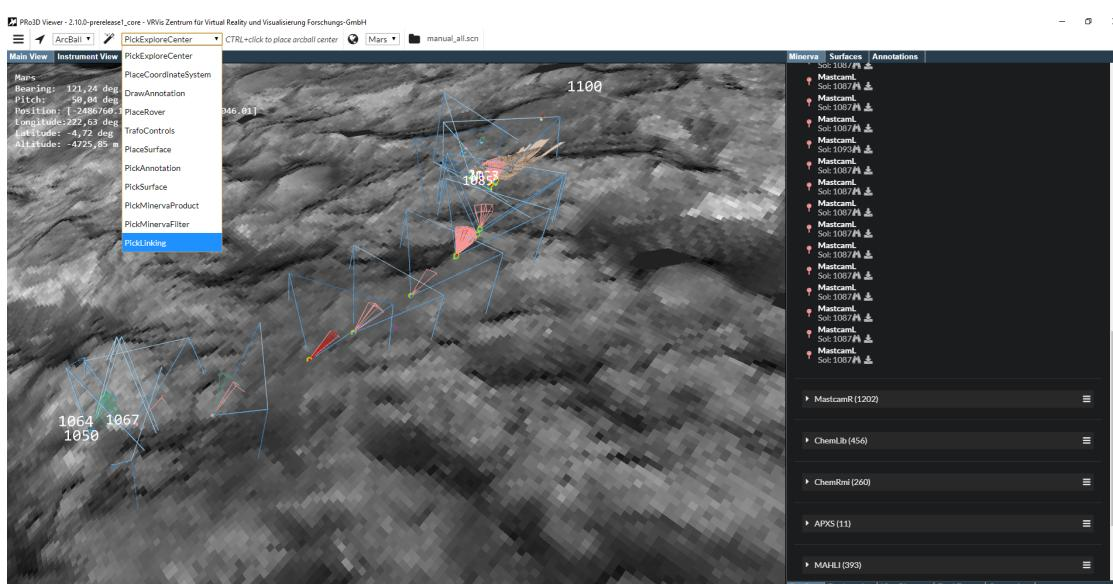

Figure 31: PickLinking
There are three minerva picking actions in the picking actions drop down menu shown in Figure 31.
- **PickLinking:** Select “PickLinking” in the actions menu and press CTRL+LMB to pick a point on the surface. All camera frustums of the products that captures the selected point are shown (Figure 31).